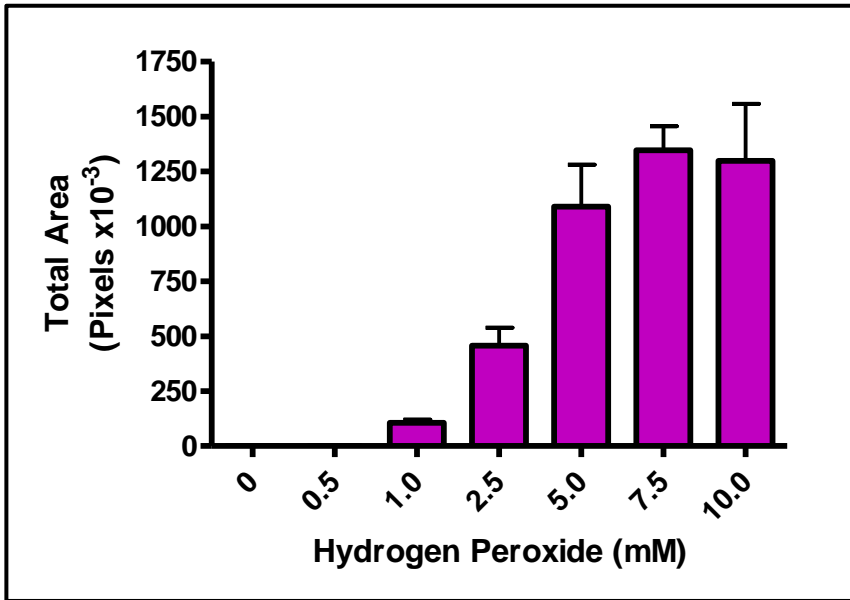

Fig. 3 Analytical Digital Photomicroscopy Quantification.
7. Plot total apoptotic area in pixels as a bar chart (Fig. 3). Results can also be expressed as a percentage of the Positive Control. This permits a comparison with data derived from the colorimetric procedure (see inside back cover of this manual).